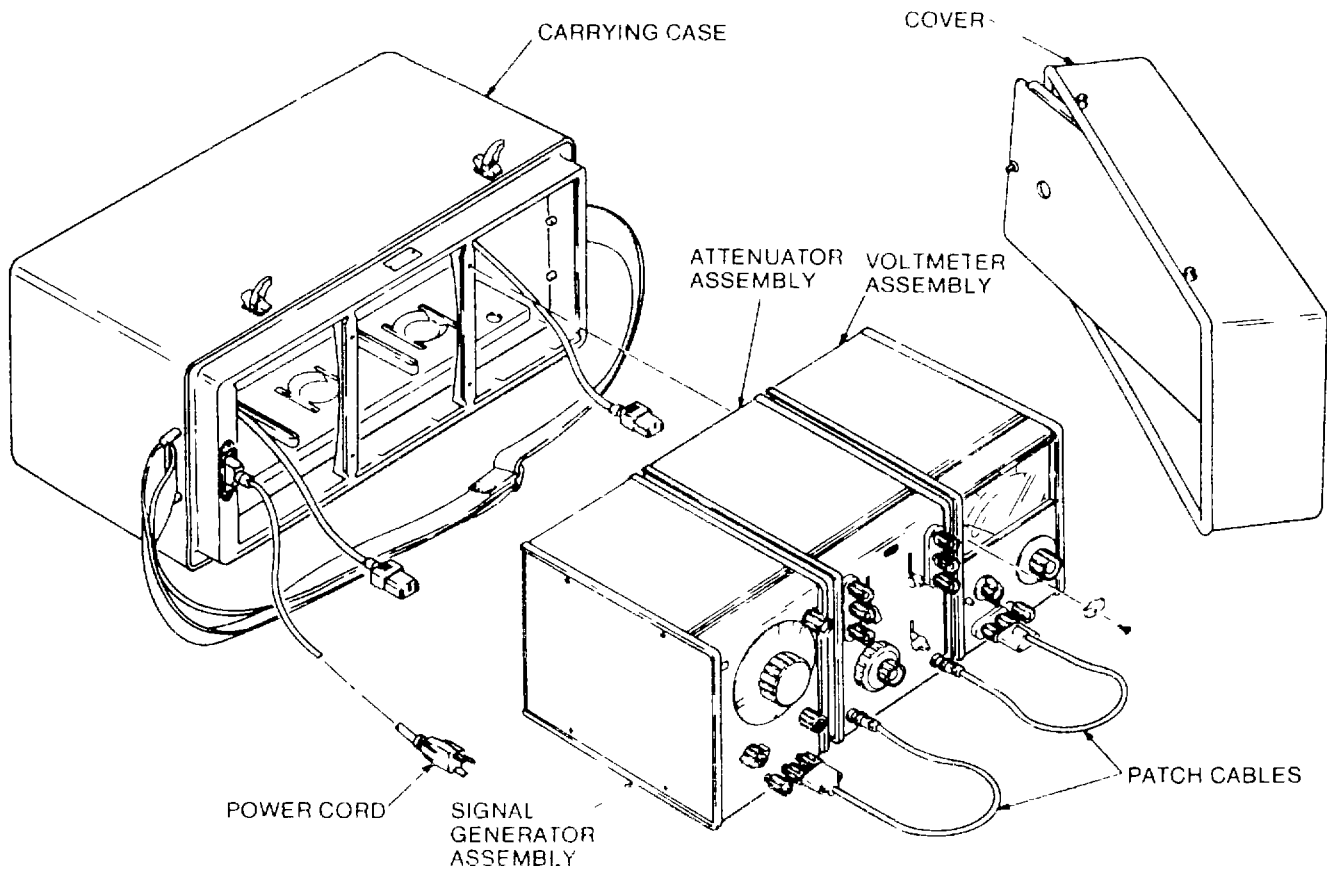

Figure 1-2 Telephone Test Set (*) (assembly diagram)
- The signal generator attenuator, and voltmeter are assembled in a carrying case (figure 1-2) Power for the signal generator and voltmeter is supplied by rechargeable batteries contained in each assembly. When the test set is connected to an ac source (115 or 230 volts ac), the power supplies in the signal generator and voltmeter (FUNCTION switch set to ON) supply operating power and recharge the batteries.
The minor components of telephone test set (*) are shown in figure 1-2 and consist of a detachable ac power cord and two patch cables for attaching the voltmeter and signal generator to the attenuator. The patch cables are terminated on one end by a BNC-type connector, and on the other end by a banana plug with 3/4-inch centers. The cables and power cord are stored in the cover of the instrument for transit, storage, or shipment.